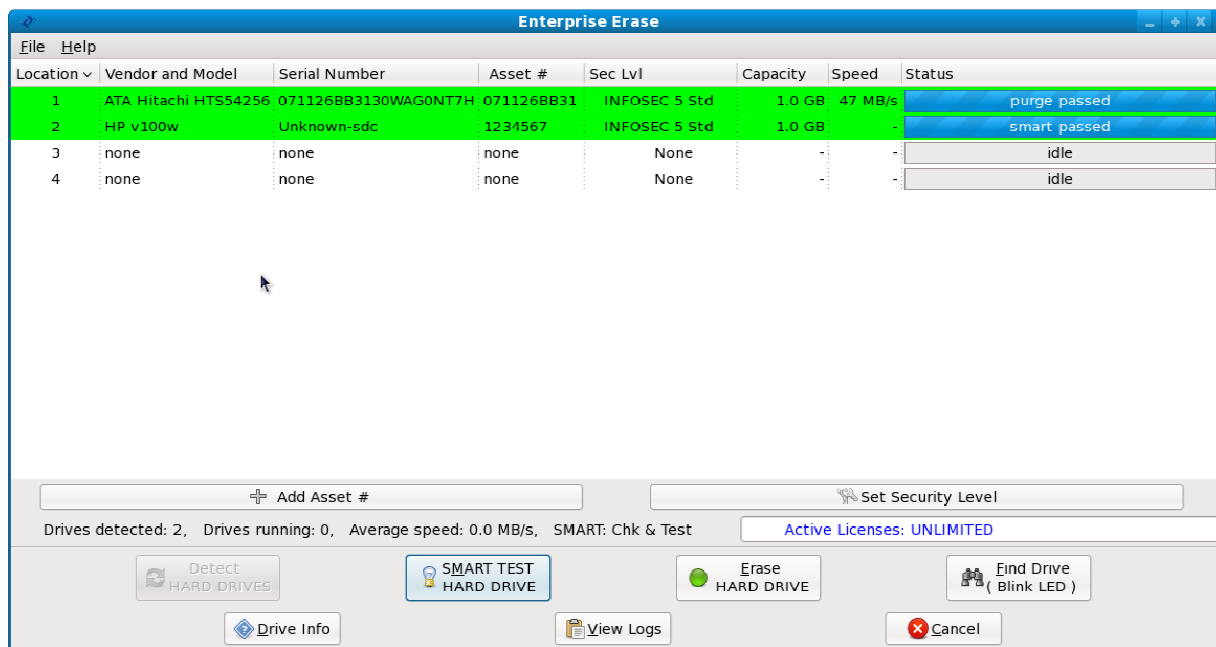

Figure 1: Main Screen
4.3 Insert Enterprise Erase CD and power up target system. Through the computer BIOS please ensure that you select the CD/DVD device as your first boot option. (Please refer to your computer's user guide). After the software launches, you will see the main user interface (GUI). Figure 1 shows this interface.